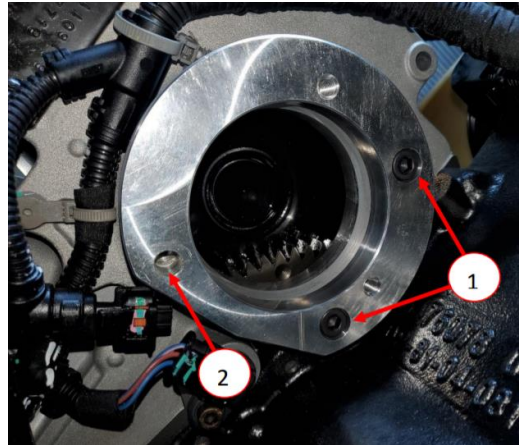

Figure 20 – Gear Housing Mounting Adapter
4. Install the gear housing mounting adapter (Figure 20).
5. Install the adapter with the flattened side pointing down so there is clearance for the cam positioning sensor and counterbores facing the fuel pump (Figure 20).
6. Install both of the adapter bolts (PN 3420835) (1) 25mm M8's in the 2 bolts holes near the engine block (Figure 20).
NOTE: It is required to loosely install bolt (PN 3901446) in location (2) to help properly align the adapter before torquing bolts (PN 3420835) (1) (Figure 20).
8. Remove the loosely installed bolt (PN 3901446) in location (2) (Figure 20). This will be used in a later step.